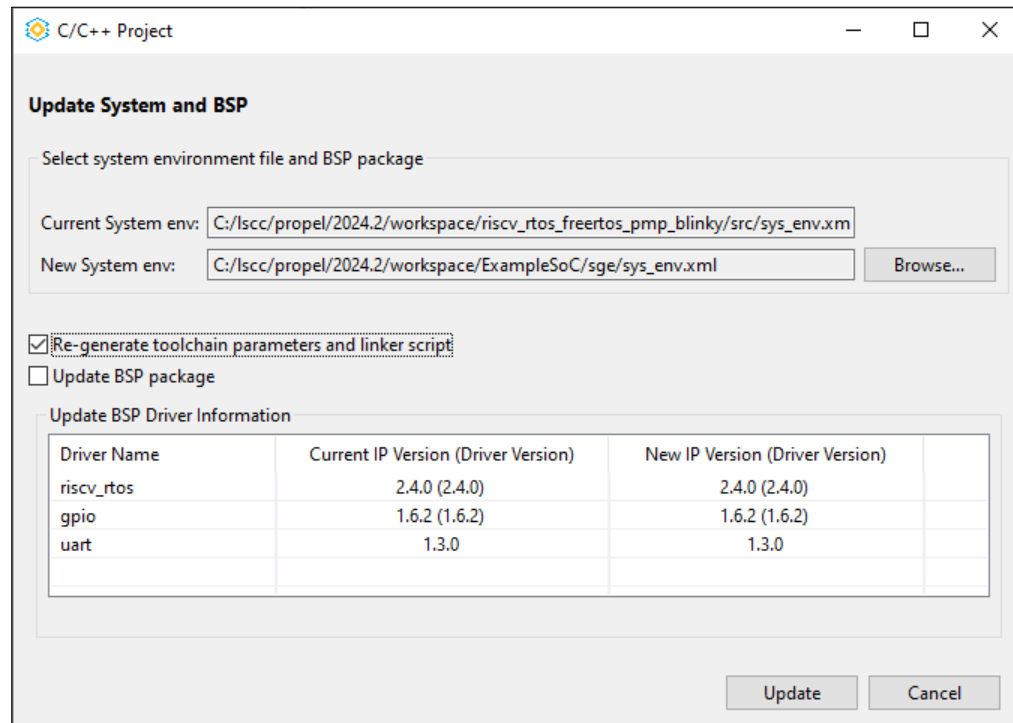

Figure A.13. Updating System and BSP
6. Switch back to the C project by selecting **Project > Update Lattice C/C++ Project...** Check the checkbox for **Re-generate toolchain parameters and linker script**. Click **Update** (Figure A.13). Choose **Yes** in the Confirm box.